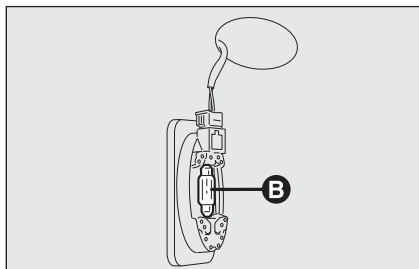

fig. 43
- replace the bulb **B-fig. 43** releasing it from the side contacts making sure that the new bulb is correctly clamped between the contacts;